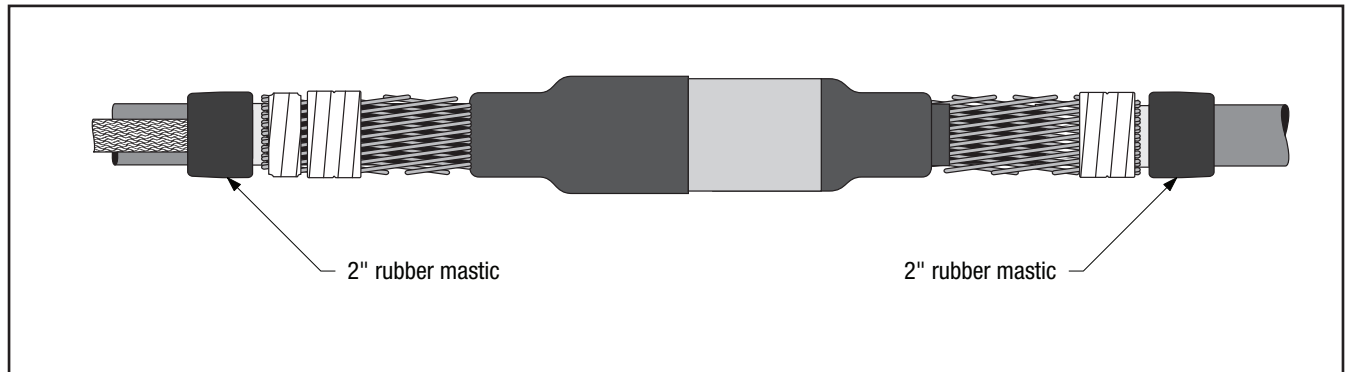
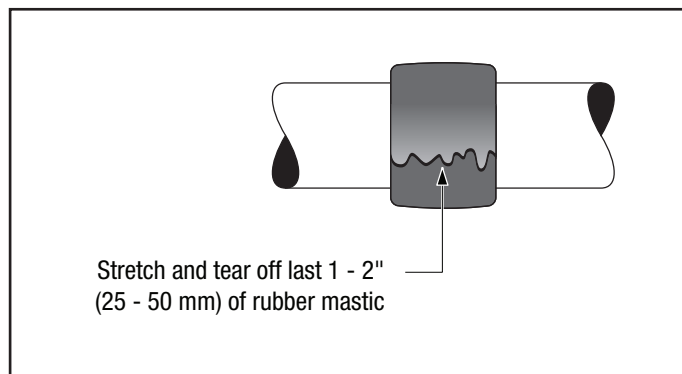

Figure 21
Figure 22
- 7.1 Wrap a roll of slightly stretched Scotch® Rubber Mastic Tape 2228, 2" x 36" around cable jacket ends (tacky side toward cable) (*Figure 21*). If grounding was applied, apply tape over mastic strips at solder block. Stretch and tear off last 1 - 2" (25 - 50 mm) of mastic (*Figure 22*).